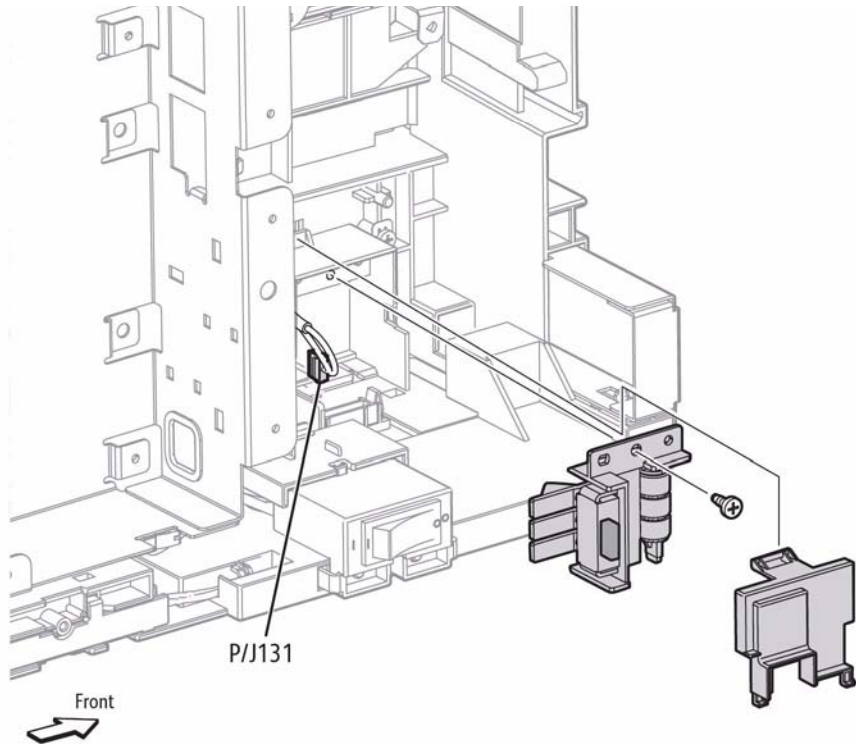

Figure 1 Remove the Size Switch
7. Refer to Figure 1 to locate and release 3 hooks that secure the switch cover and remove.